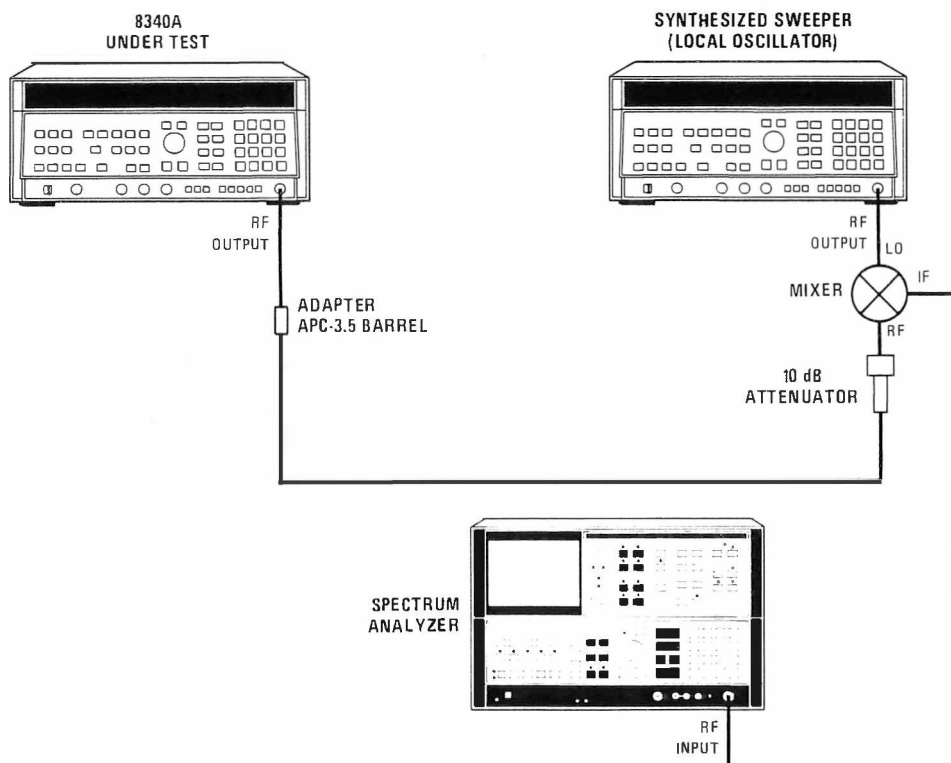

Figure 5-41. Unleveled Squegging Test Setup.
25. Connect equipment as shown in Figure 5-41. Connect the mixer at the Local Oscillator (LO) HP 8340A RF output connector to obtain maximum mixer LO input level. Allow at least 30 minutes warm up time.